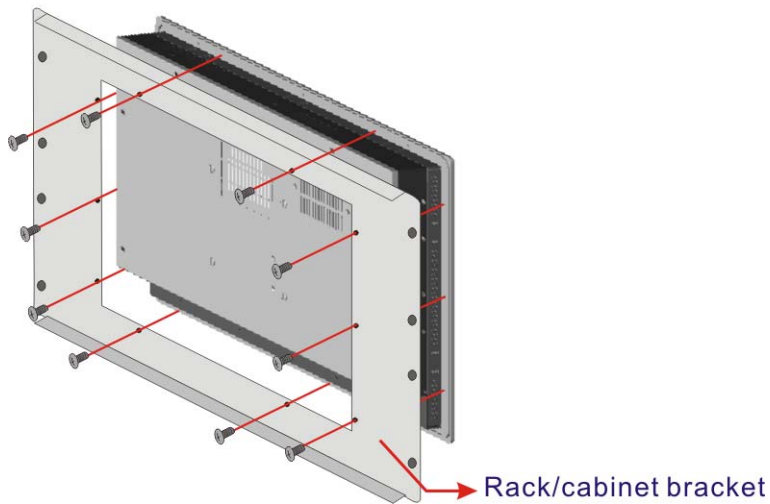

Figure 3-15: Secure the 2901190/2901200 Rack/Cabinet Bracket
Step 4: Secure the rack/cabinet bracket to the 2901190/2901200 flat panel PC by inserting the retention screws (**Figure 3-15**).